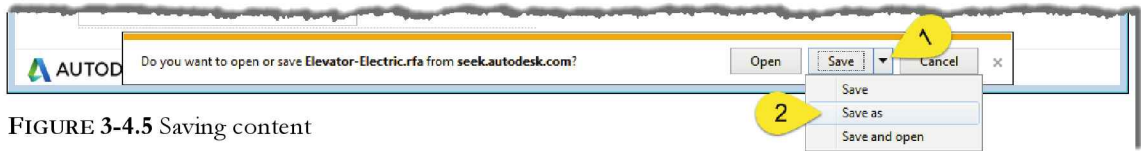

FIGURE 3-4.5 Saving content
- Select **Save As** (Figure 3-4.5).